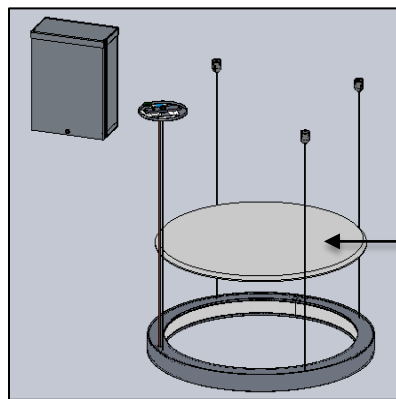

FIG. 29 - RV1 (INNER ILLUMINATION) (WITH ACOUSTIC PANEL SHOWN)
16. If there is option for Acoustic Panel, place the Acoustic part above the fixture body such that it is eventually balanced and assembly concentrically to the axis of fixture body as shown in FIG. 29 and 30 below for both RV1 and RV2 Series.